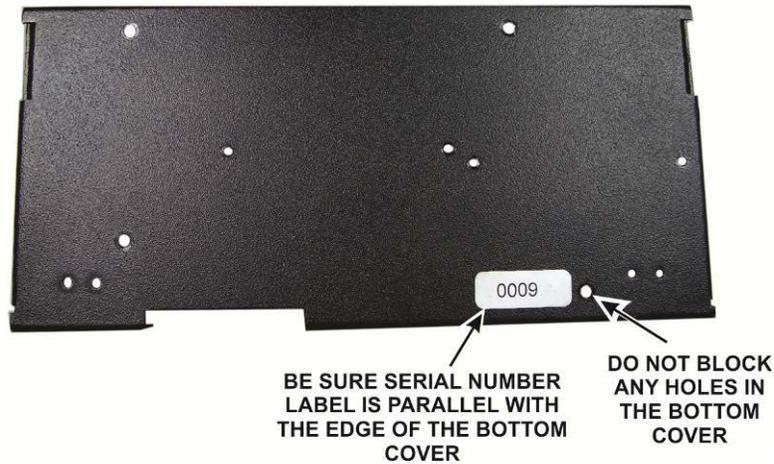

Figure 30. Placing the Serial Number on the Bottom Cover.
- Peel the protective cover off of the back of the self-adhesive serial number label and affix it to the bottom cover as shown in Figure 30.